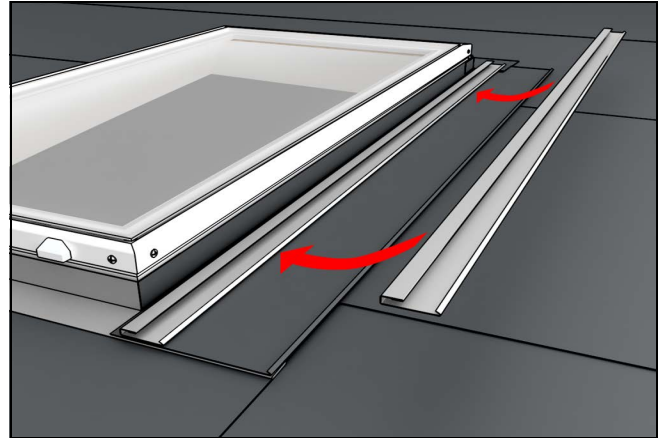

Figure 54
6. Place J-channel with the bottom flush with jamb flashing. Can be positioned tight against side of jamb flashing or moved away from unit to accommodate seam cut back. Top of J-channel is cut to length as needed not to interfere with top metal roof cut out. J-channel will be further secured with roofing screws. See Figure 54.